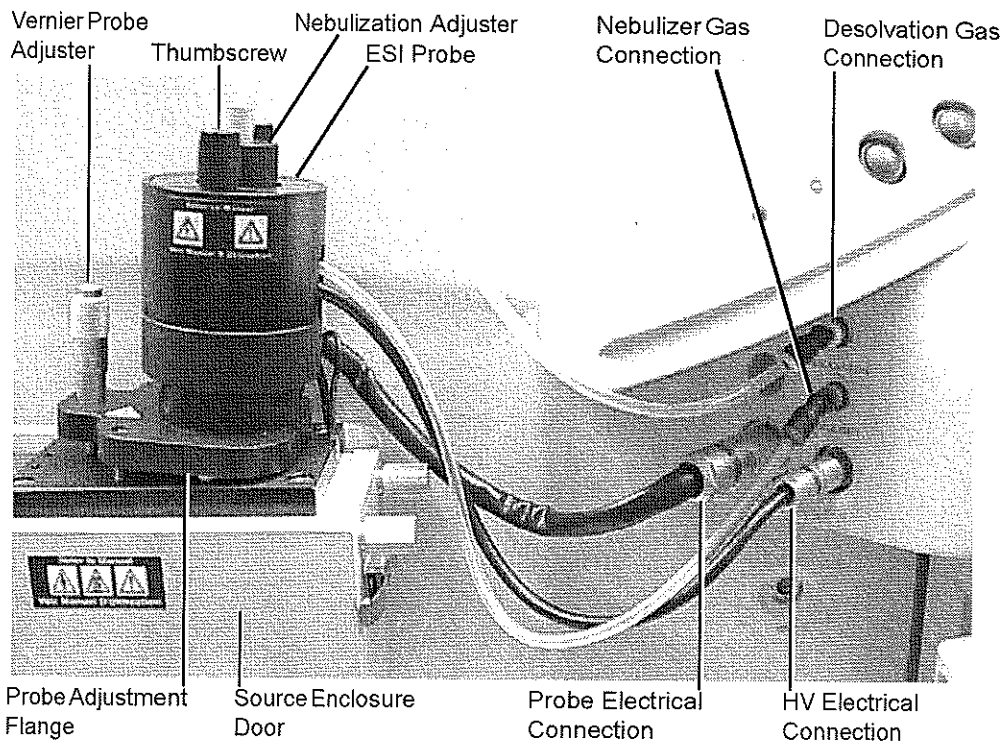
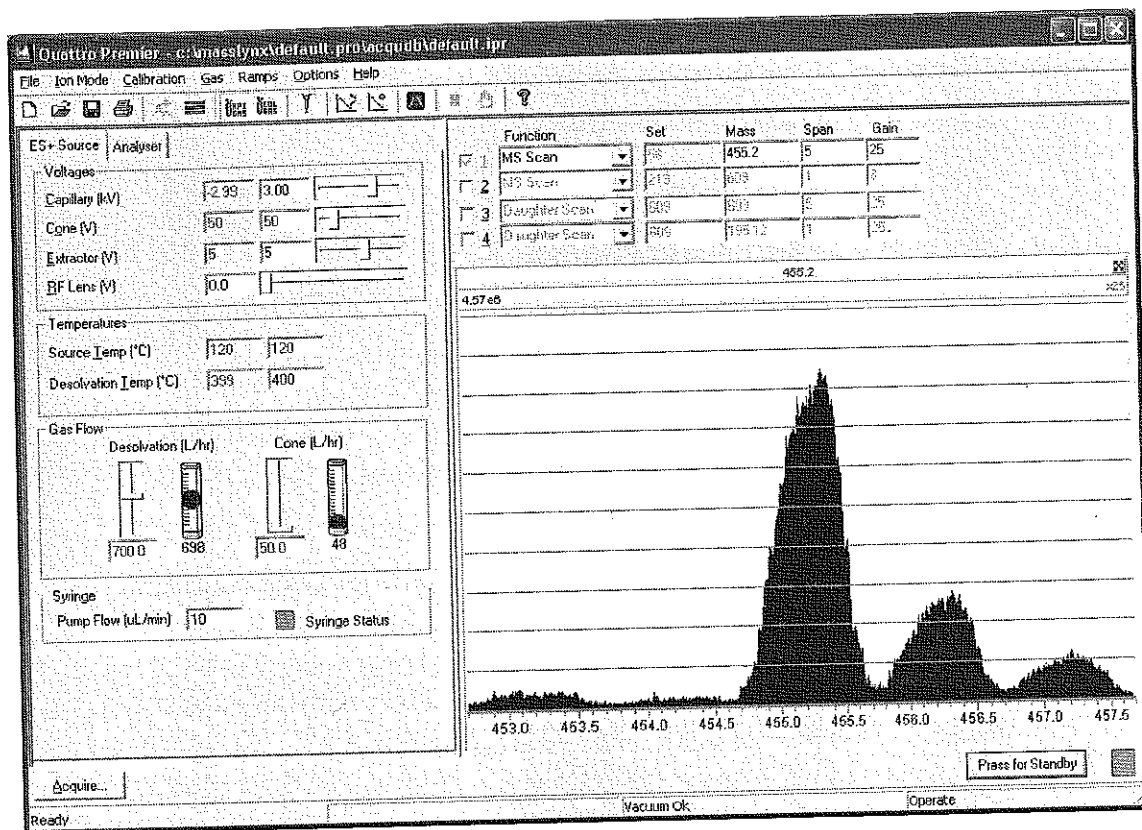

Figure 2-2 ESI Probe Mounted on the Source Enclosure, Showing the Connections to the Front Panel
Figure 2-6 Tune Window with a Verapamil Peak
5. Secure the probe by tightening the two thumbscrews (Figure 2-2).
20. Observe the verapamil peak at  $m/z$  455.2 ( $\text{M}+\text{H}^+$ ) in the Tune window (see Figure 2-6).
21. Use the vernier probe adjuster, on the probe mounting flange (see Figure 2-2), to maximize the displayed peak intensity.
23. Use the nebulization adjuster, on the probe (see Figure 2-2), to give the best displayed peak intensity and stability.
27. Starting from a value of 15, increase the Cone (V) voltage in increments of 2. Set the cone voltage to the value giving the highest displayed peak intensity. Record this value.
28. Starting from a value of 0, increase the Extractor (V) voltage in increments of 1. Set the extractor voltage to the value giving the highest displayed peak intensity.
29. Adjust the RF Lens (V) voltage to the minimum value that maintains the highest peak intensity, without loss of resolution.
30. Confirm that the displayed peaks have the correct resolution (the isotopes are resolved as shown in Figure 2-6). If necessary, adjust the Analyser page LM
31. In the Tune window, determine the m/z value of the peak's center, to one decimal place (Figure 2-6). Record this value.